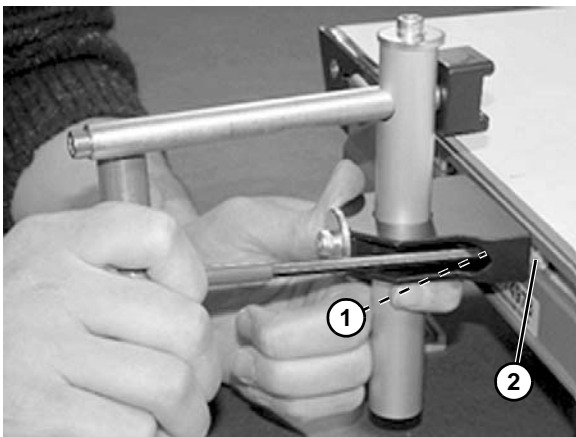

Figure 69
2. Tighten screws (**Figure 69, item 1**) making sure T-nut (**Figure 69, item 2**) rotates and engages inside of the T-slot.